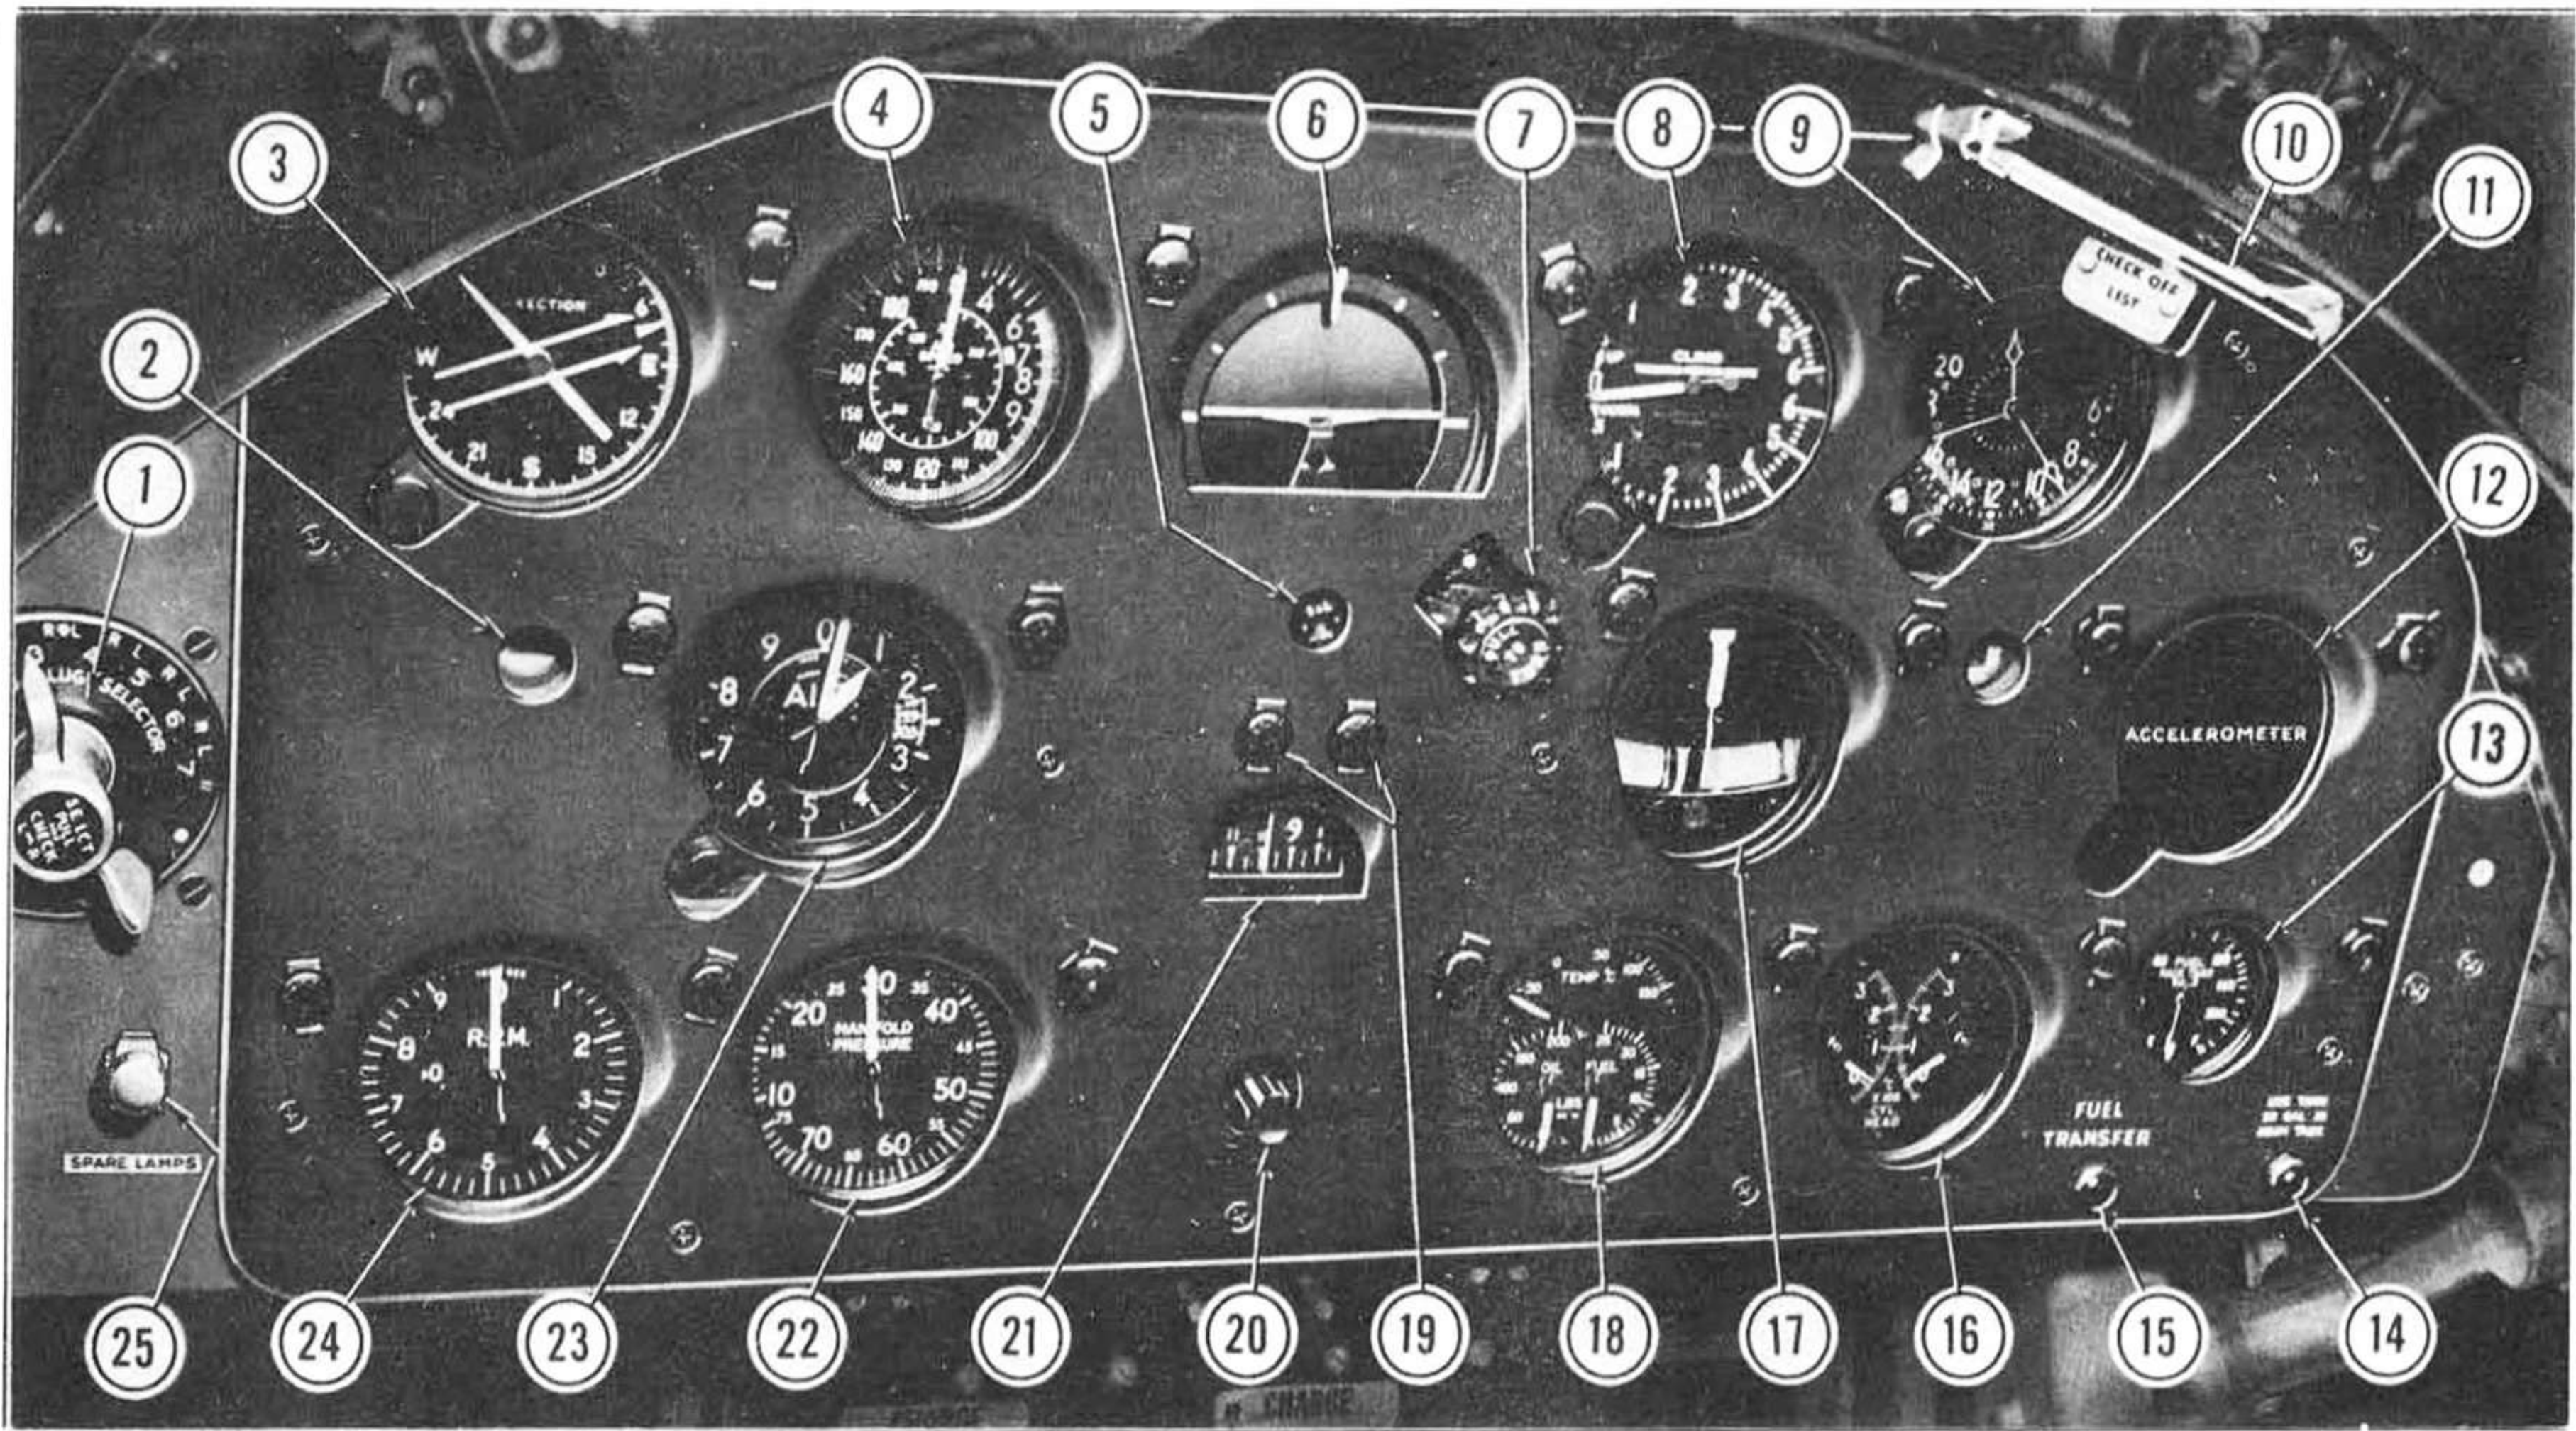

Figure 2 — Main Instrument Panel
a. GENERAL. — The cockpit of the F2G is designed to place instruments and controls in the most logical and accessible positions. Figures 2, 3, and 4 show the general arrangement of the pilot's compartment. Notice that the electrical controls are grouped at the pilot's right, while hydraulic and mechanical controls are principally at his left.